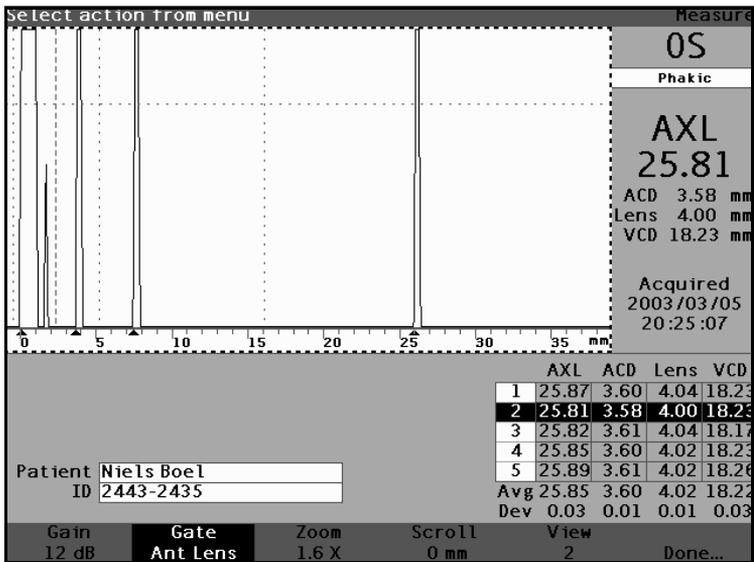

Figure 115 Measurement Activated with Waveform Review Menu
2. Press the knob or the  $\sqrt{\phantom{x}}$  button, to activate the waveform area, indicated by the dashed border. (See Figure 115 below.) The soft menu selections on the Measure Screen will change from the Main menu to the Waveform Review Menu.